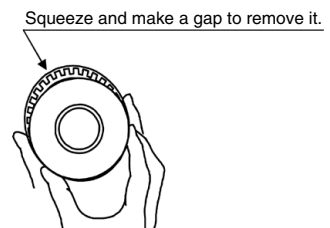

Fig. 2 Removal of piston seal
③8 Piston seal: Remove the piston seal. (Fig. 2)
④0 Cylinder tube gasket: Insert a watchmakers screw driver to pull out the seal.